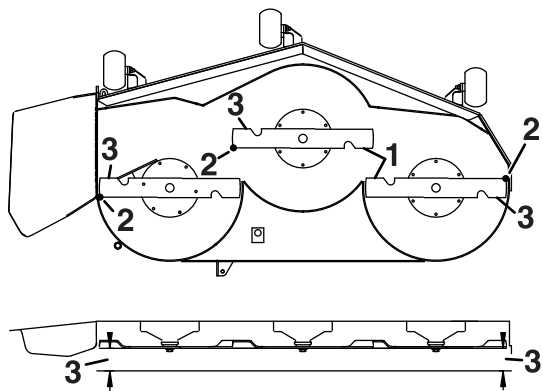

Figure 60
4. Measure between the outside cutting edges and the flat surface (Figure 60).